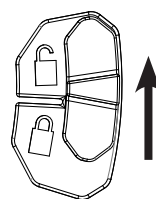

Figure 1
2. Check the storage lock is unlocked before fishing. (Figure 1)